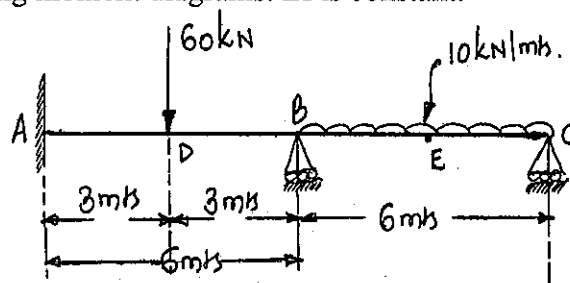

Fig.Q7
- 7 Analyze the continuous beam shown in Fig.Q7, by Clapeyron's three moment theorem. Draw the shear force and bending moment diagrams. EI is constant. (20 Marks)